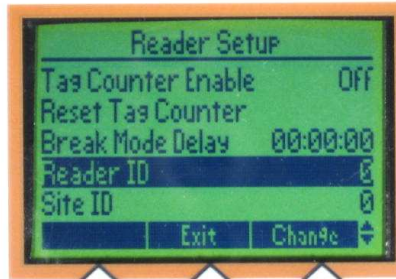
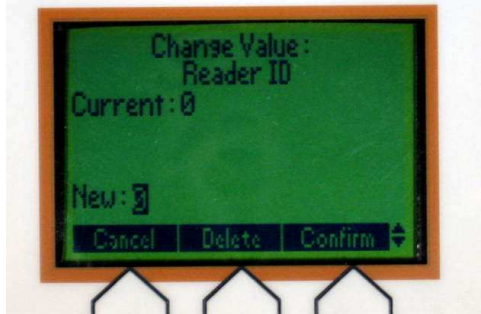

FIG. 73: Reader ID Screen
FIG. 74: Change Value Screen
1. Press the UP/DOWN Arrow Keys on the Reader Setup Screen and highlight the "Reader ID" line. See Fig. 73.
2. Press the CHANGE Key. See Fig. 73. The Reader ID Change Value Screen will appear. See Fig. 74.
3. Press the UP/DOWN Arrow Keys to change the setting. See Fig. 74.
4. Press the CONFIRM Key to lock in the new settings. See Fig. 74.